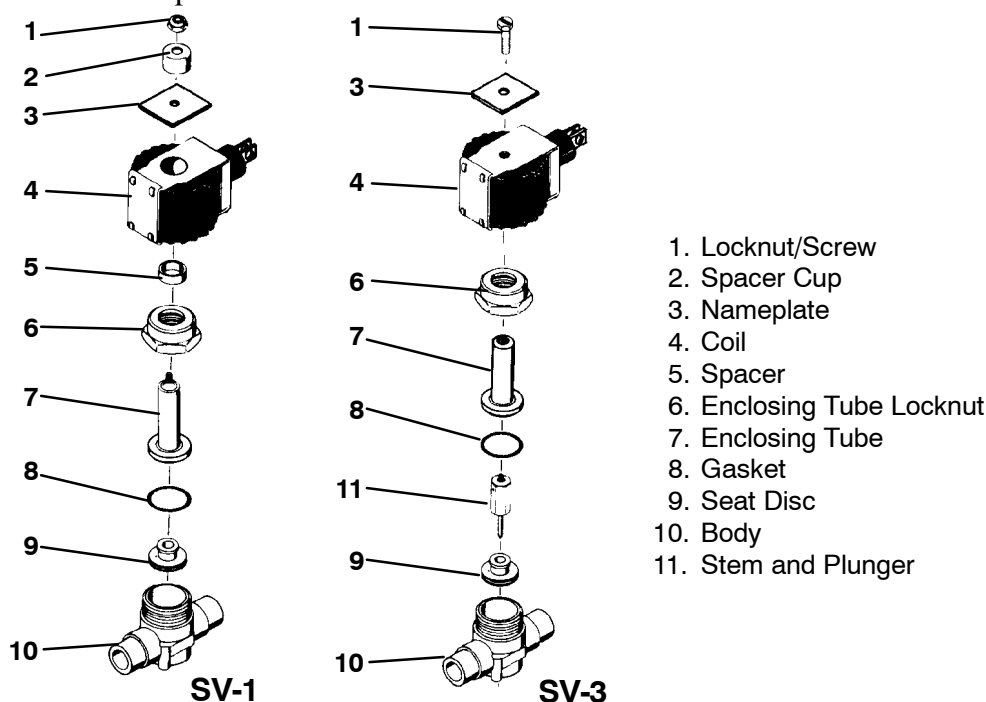

Figure 8-24. Solenoid Valves - Sporlan
b. Replacing Internal Components (See Figure 8-24)
7. For SV3 install stem and plunger (item 11, Figure 8-24)